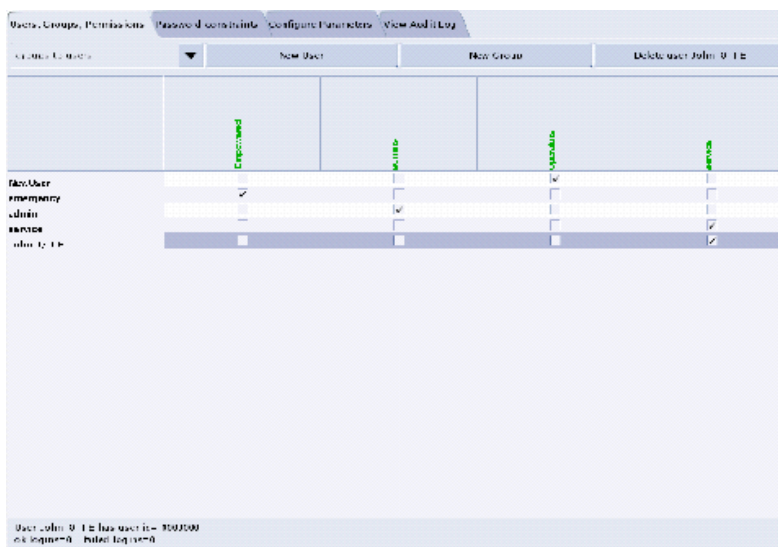

Figure 3-9 Using the User, Groups, Permissions screen
- 8.) If an account for a service user has been added, select groups to users from the pull-down menu, and assign the service user to group Service by selecting the check-box under Service in the row of the new user name, e.g., John_Q_FE (see Figure 3-9).